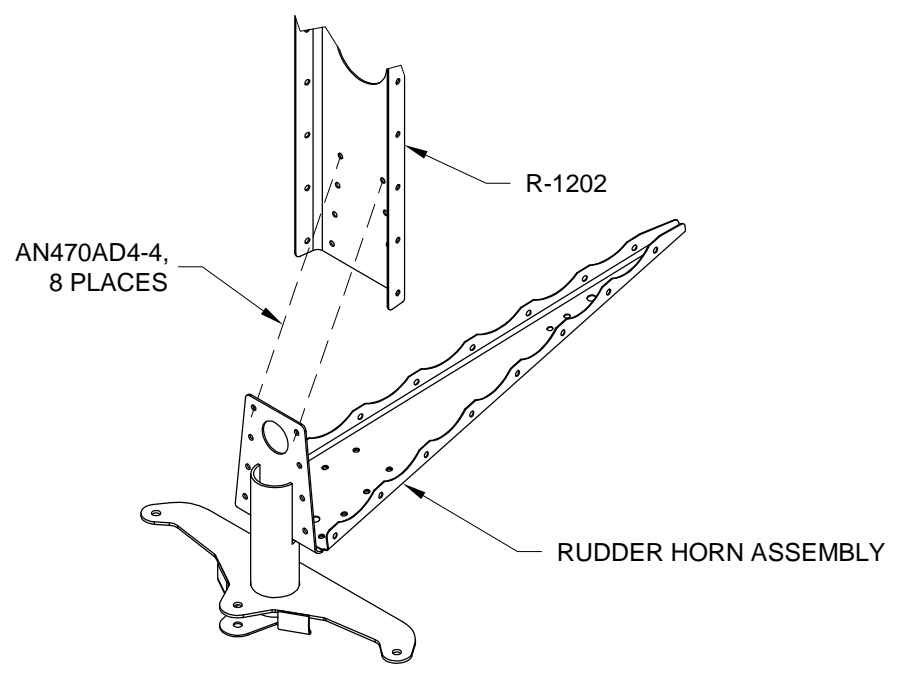

FIGURE 2: RUDDER HORN TO SPAR RIVETS
Step 2: Rivet the Rudder Horn Assembly to the R-1202 Spar, as shown in Figure 2.